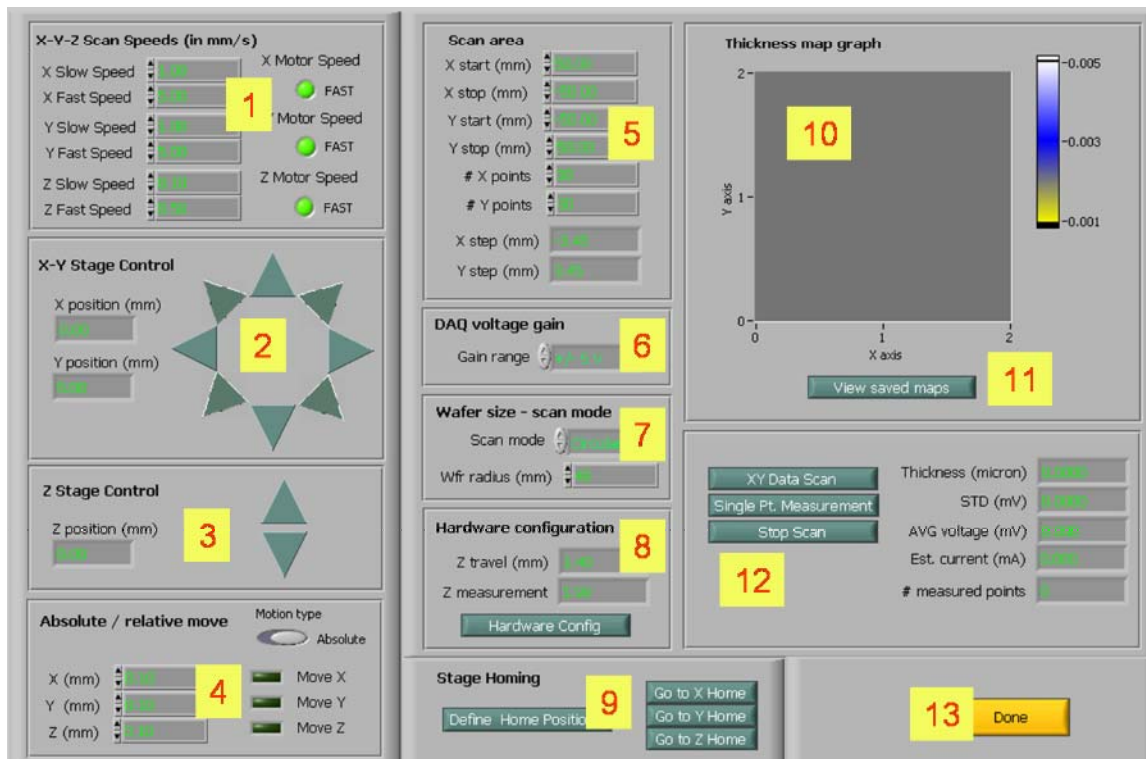
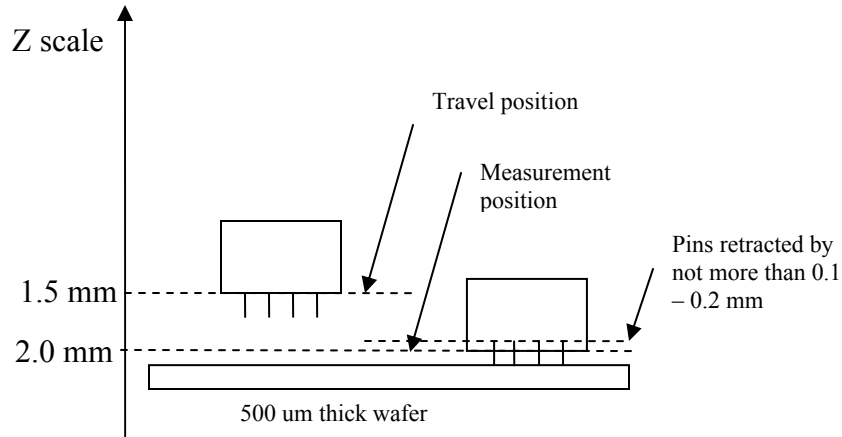

Fig. 3 – LabVIEW 4 point probe graphical user interface
Figure 4 - Typical positions of the probe in Travel and Measurement positions
2 – Launch the LabVIEW 4 point probe application from Desktop (Fig.3).
After turning on the ESP 300, check the metric scale on the 850G actuator (Z stage) and make sure it is accurately at 0 mm. The position read on the ESP 300 controller as well as the Z position read on the LabVIEW application should both read 0 mm (Fig.3 – label 3). If not, it is critical to redefine the zeros: with the Z Up and Down buttons on the software interface [Fig.3 – label 3], position the Z stage at 0 mm on the actuator scale (not on the software or the ESP 300 controller). Once positioned, click the “Define Home Position” button [Fig.3 – label 9] and redefine Z homing.
To figure out the settings of the X-Y scan limits (Xmin, Xmax, Ymin, Ymax) [Fig.3 – label 5], it is easier if the zero position in X and Y corresponds to the center of the wafer. Therefore redefine the zeros for the X and Y stages by following the same procedure as for the Z stage if necessary.
While scanning over the wafer, the z stage will be automatically translated between a travel position (up) and measurement position (down) that are both defined by clicking on Hardware Configuration button [Fig.3 – label 8]. The Z travel position is typically at 1.5 mm, meaning that at this position, you should be able to translate your sample in X and Y without the probe touching the wafer. In the Measurement position, e.g., 2 mm, the spring loaded pins should come in contact with the sample and be slightly retracted by ~0.1-0.2 mm (see Fig. 4).
- Make sure, the new Z limits are displayed properly in [Fig.3 – label 8]
To obtain the best measurement resolution, the smallest adequate voltage range should be selected. However you must make sure that the range you selected will be adequate over the whole area you want to scan. Prior to do a complete scan, you should therefore make a few manual measurements at different X and Y locations by using the “Single Point Measurement” function [Fig.3 – label 12] and make sure you have selected the optimal range [Fig.3 – label 6]. A range too small will result in saturated measurements as the voltage  $U_s$  is above the selected range in which case negative values for the measured voltage and current will be returned.
Enter your scan coordinates [Fig.3 – label 5] for Xmin, Xmax, Ymin, Ymax. Select the number of point in X and Y. In order to maintain the aspect ratio of the thickness map
displayed by LabView [Fig.3 – label 10] it is recommended to select the number of points in X and Y so that the X and Y step is the same.
When scanning over circular sample (e.g., 100 mm wafers), it is recommended to select the circular scanning mode [Fig.3 – label 7] so that points which are within the rectangular scan area defined by the user but beyond the wafer radius are skipped during scanning.
Press X-Y Data Scan when ready to start scanning [Fig.3 – label 12]. Press Stop Scan if you need to abort the current scan.
Once the scan is completed, a window will be opened to ask you to save the data. You can save the thickness maps as well as Voltage, Current and Voltage Standard deviation maps as a 2D array of the corresponding values that can be read by Excel or the integrated LabVIEW View Graph [Fig.3 – label 11]. You can also to select the thickness values with the corresponding X and Y positions to be read with our Matlab application.
You can open Saved Maps by clicking on View Maps [Fig. 3 – label 11] and Open data file. Make sure to open a 2D thickness array as this subVI will not read the files saved for Matlab analysis (see section 10)
To close application, always click on the DONE button [Fig.3 – label 13]. By doing so, all the stages will be returned to their home positions. The ESL can then be safely turned off if needed.